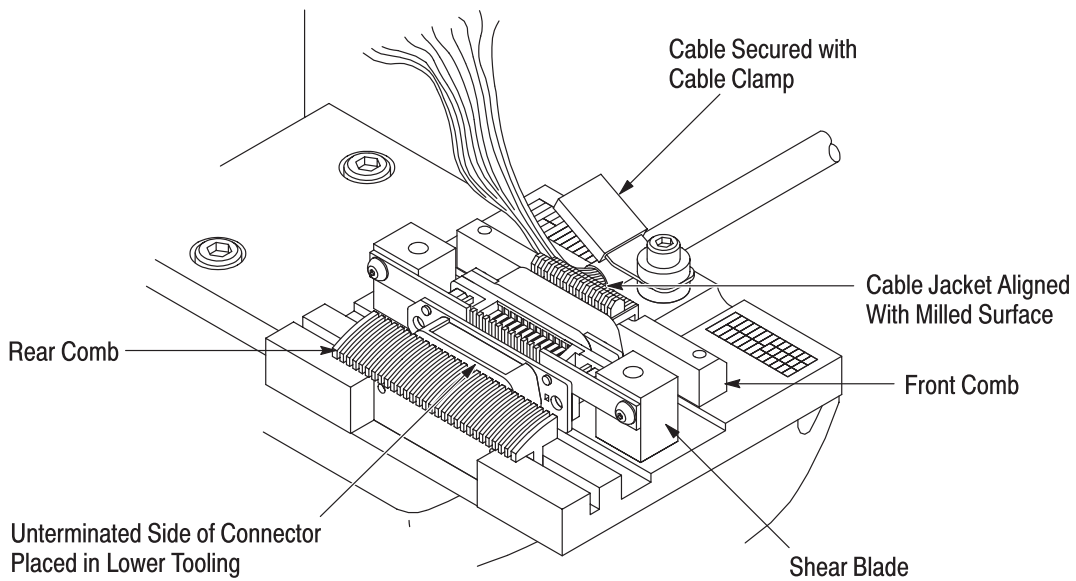

Figure 12
6. Place the unterminated side of the connector into the pocket of the lower tooling. Place the cable into the cable slot, and secure it with the cable clamp. See Figure 12.
NOTE *The end of the cable jacket must be aligned with the milled surface of the lower tooling as shown in Figure 12.*
7. Reposition the shear blade and comb support over the dowel pins. See Figure 12.